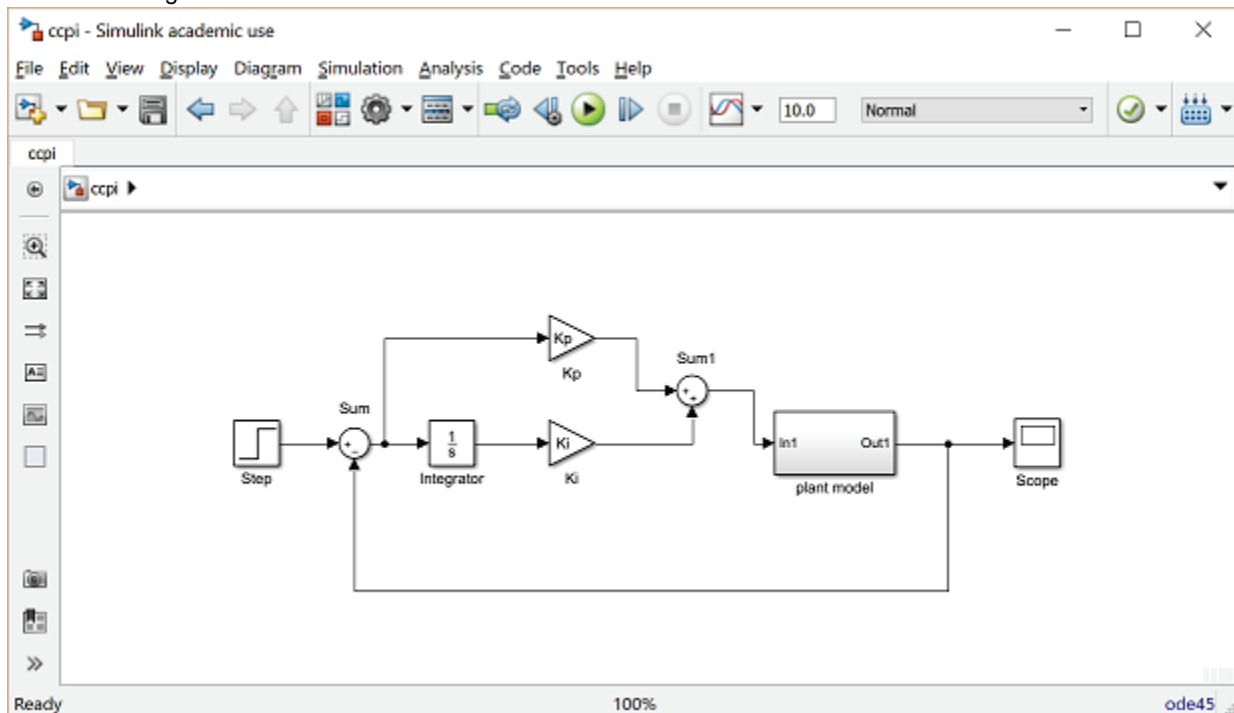

Figure 3.2 Simulink model ccpi.slx
- Q38(b)** The overall control system model file as in Fig.3.2 (ccpi.slx)